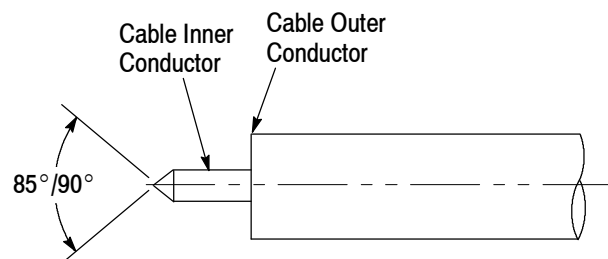

Figure 4
2. File blunt end of inner conductor to an 85° to 90° cone as shown in Figure 4.